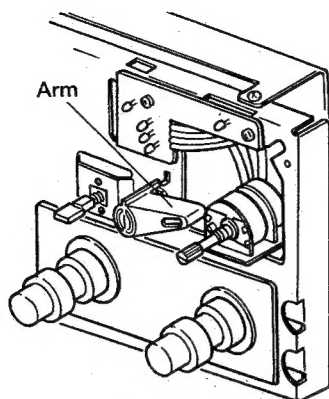

Fig. 14
- ① Set each L.E.D. in the proper position.
- ② Position the arm horizontally as shown in Fig. 14, and install the master volume knob so that its pointer indicates the -12 dB position.